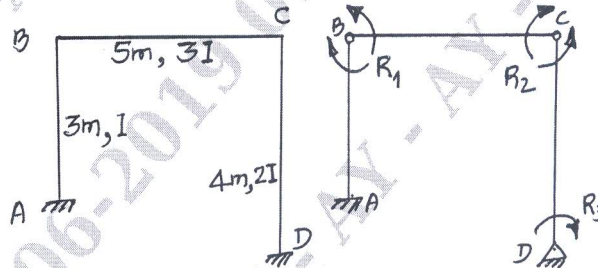

Fig.Q3
- 3 Synthesize the structure flexibility matrix for the portal frame shown in Fig.Q3 by transformation matrix approach. Take moments at B, C and D as redundant  $R_1, R_2$  and  $R_3$  as shown in Fig.Q3.